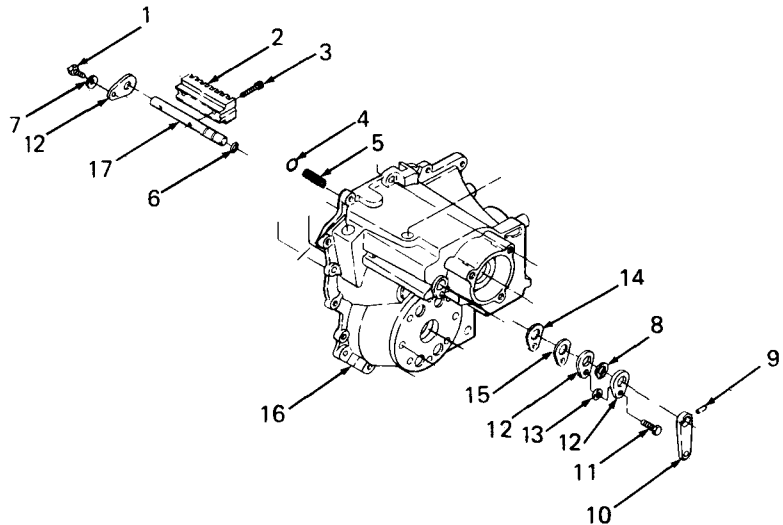

Figure 5-36. Interlock Shift Assembly (Models 2130, 2140 and 2160).
25. Remove the shift interlock assembly (see Fig. 5-36) from the RH transaxle housing as follows:
8. Inspect the interlock shift arm (10, Fig. 5-36) for cracks or elongated holes.
12. Inspect the shift interlock (2, Fig. 5-36) for broken or damaged engagement teeth.
9. Replace the O-ring (6, Figure 5-36) on the shift interlock shaft (17, Figure 5-36).